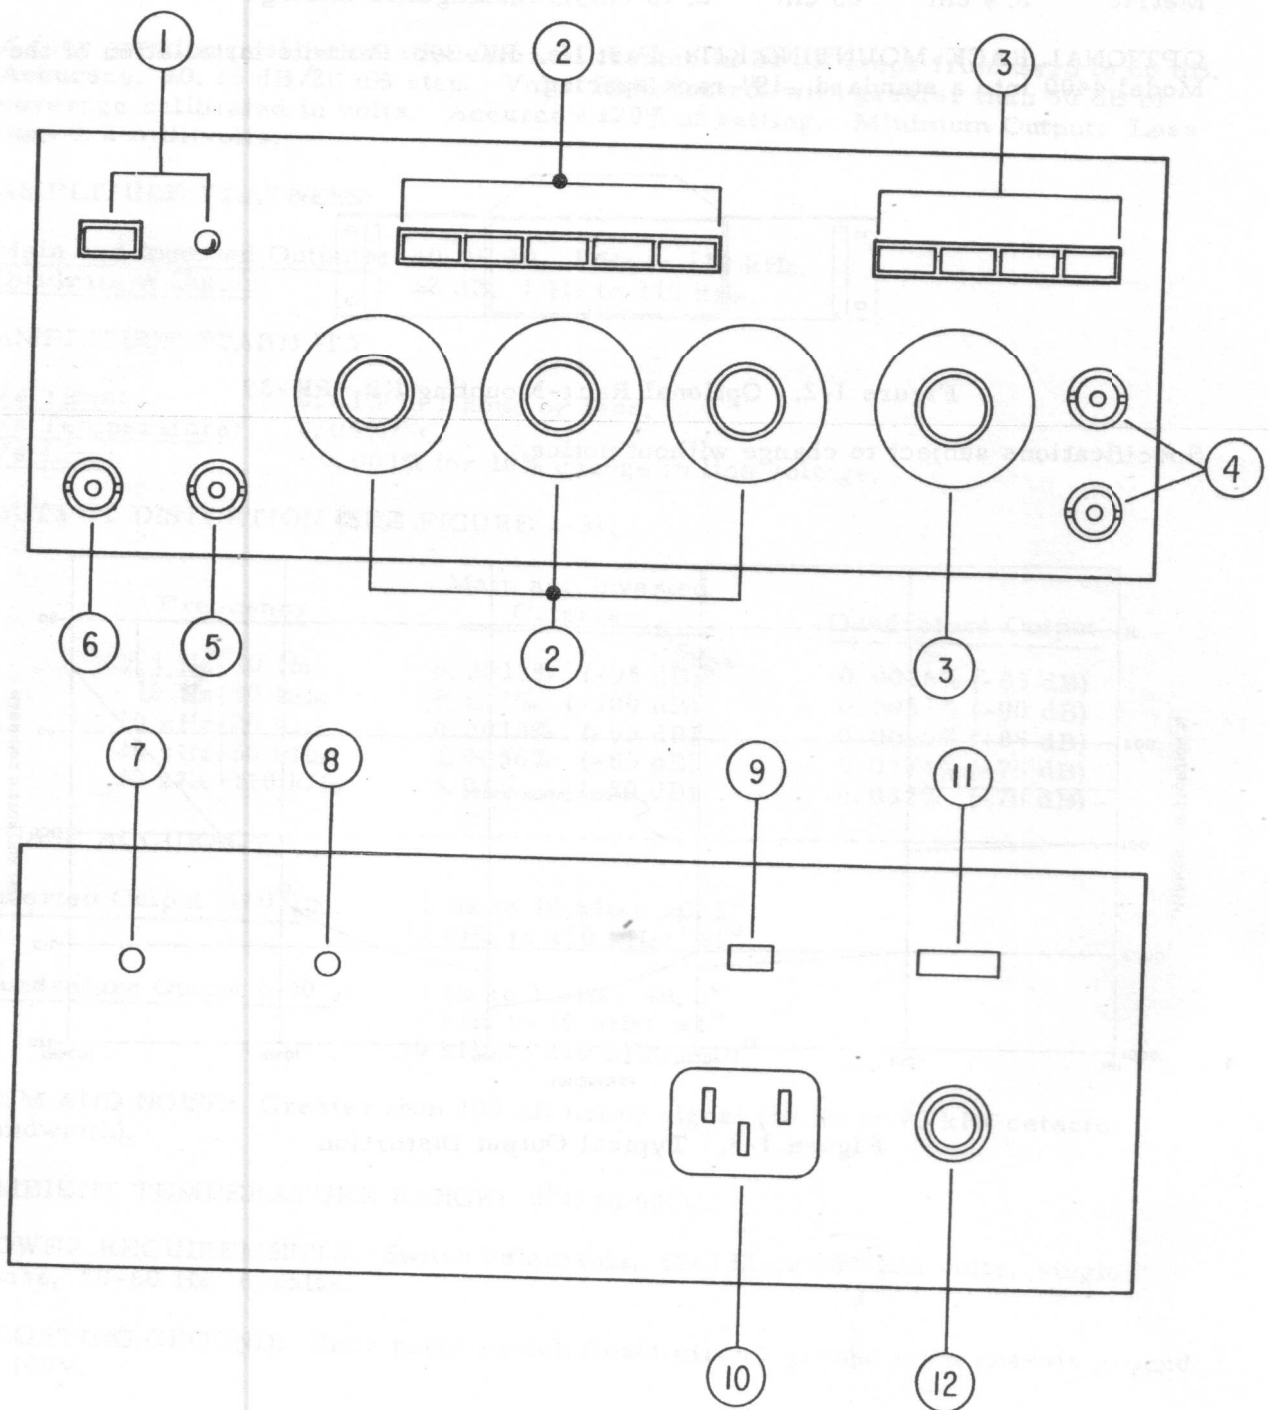

Figure 2-1. Operating Controls and Connectors
2.2 OPERATING CONTROLS AND CONNECTORS (See Figure 2-1)